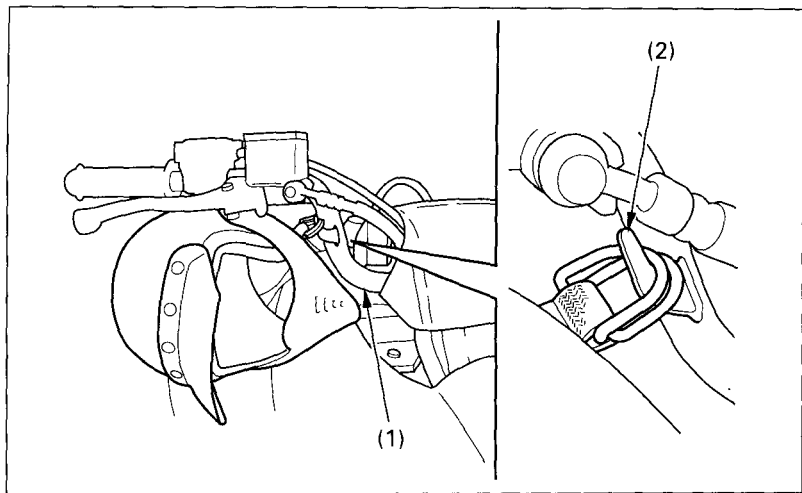

Fig. 2-17 (1) Handlebar
The helmet holder (2) (Fig.2-17) is located on the right side of the handlebar (1). To use the holder, hang the D-ring on your helmet strap over the bracket. Use the helmet holder only when the Sportrax is parked.